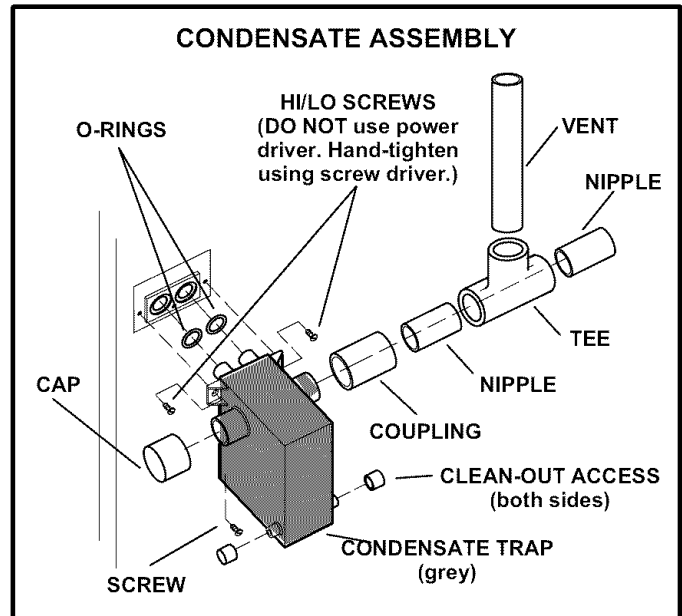

FIGURE 34
- 2 - Install condensate trap onto the condensate collar. Use provided HI/LO screws to secure two upper flanges of the trap to the collar. Use provided sheet metal screw to secure bottom trap flange to side of unit. See figure 34.